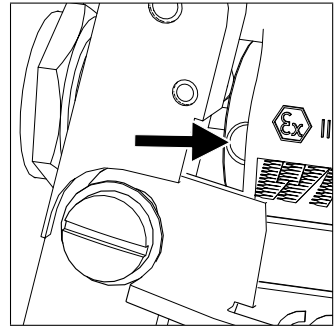
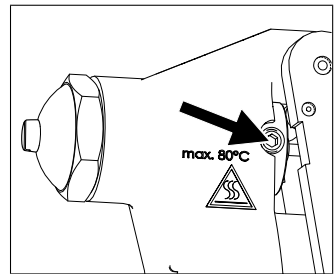

Fig. 13: Hole in the guide sleeve
Fig. 14: Threaded pin
1. Insert the supplied hexagon socket wrench in one of the holes on the guide sleeve (see Fig. 13).
2. Turn the guide sleeve until the threaded pin is positioned in the gap between the trigger and the gun body (see Fig. 14).
3. Insert the supplied hexagon socket wrench in one of the holes on the guide sleeve (see Fig. 13 on page 31).
6. Set a play of 2-3 mm on the trigger (section 6.3 on page 30, Fig. 13 and Fig. 14).
9. Turn the guide sleeve until the threaded pin is positioned at the recess of the gun body (Fig. 14 on page 31).
5. Set a play of 2-3 mm on the trigger (see Fig. 13 and Fig. 14 on page 31).
1. Insert the supplied hexagon socket wrench in one of the holes on the guide sleeve (see Fig. 13 on page 31).
2. Turn the guide sleeve until the threaded pin is positioned at the recess of the gun body (see Fig. 14 on page 31).